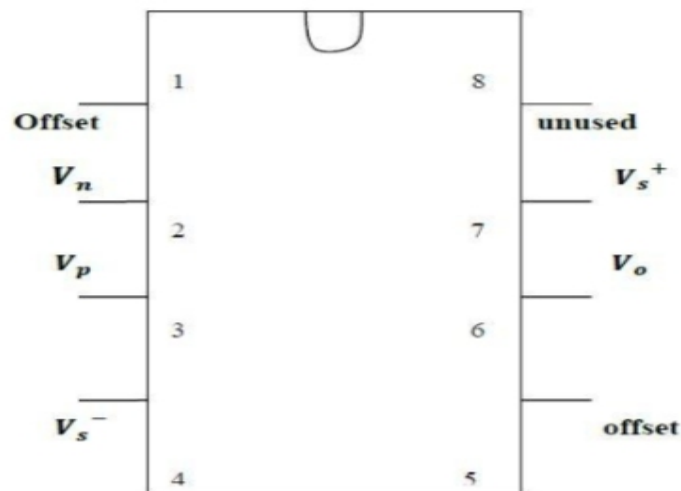

Fig 4.1 PIN CONFIRGURATION OF LM741IC
- as shown in Fig 4.1 simulation result , RLC give damping response but we need damping free output so we can use Analog PID controller which measure error and apply according to it and transform out output to damped free signal